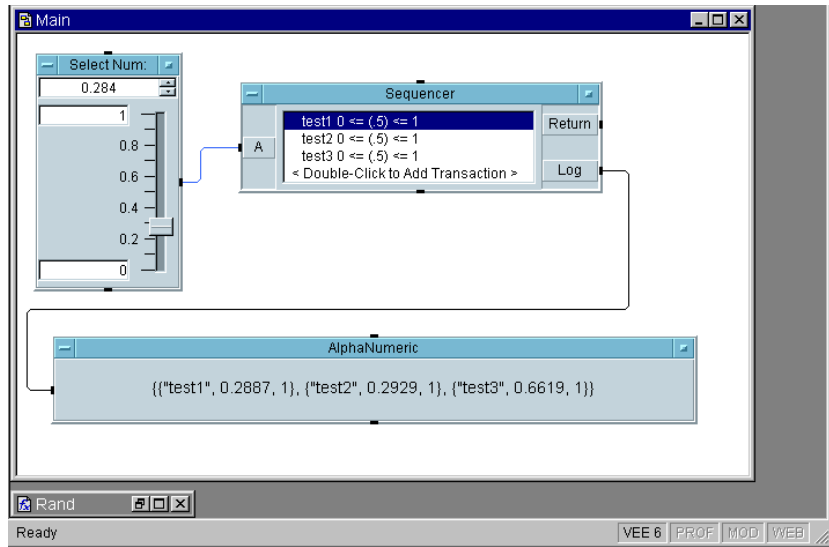

Figure 238 Passing Data Using an Input Terminal
- 3** Save the program again as seqdat1. Select a number on the Real64 Slider object and run seqdat1. It should look like Figure 238.